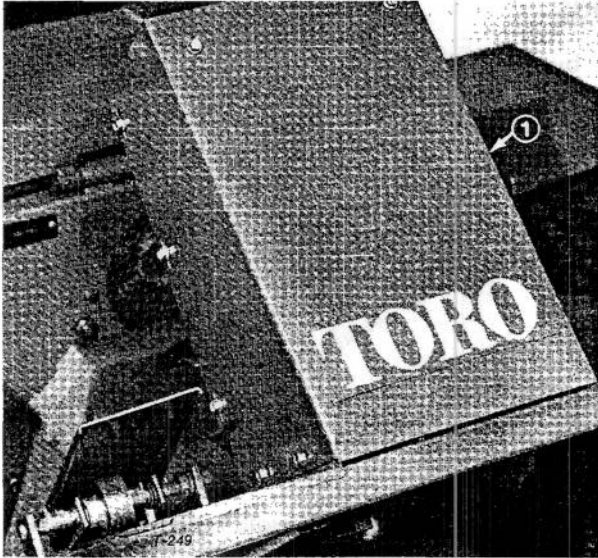

Figure 37
1. Remove the self tapping screws holding steering tower cover in place (Fig. 37) and remove cover.